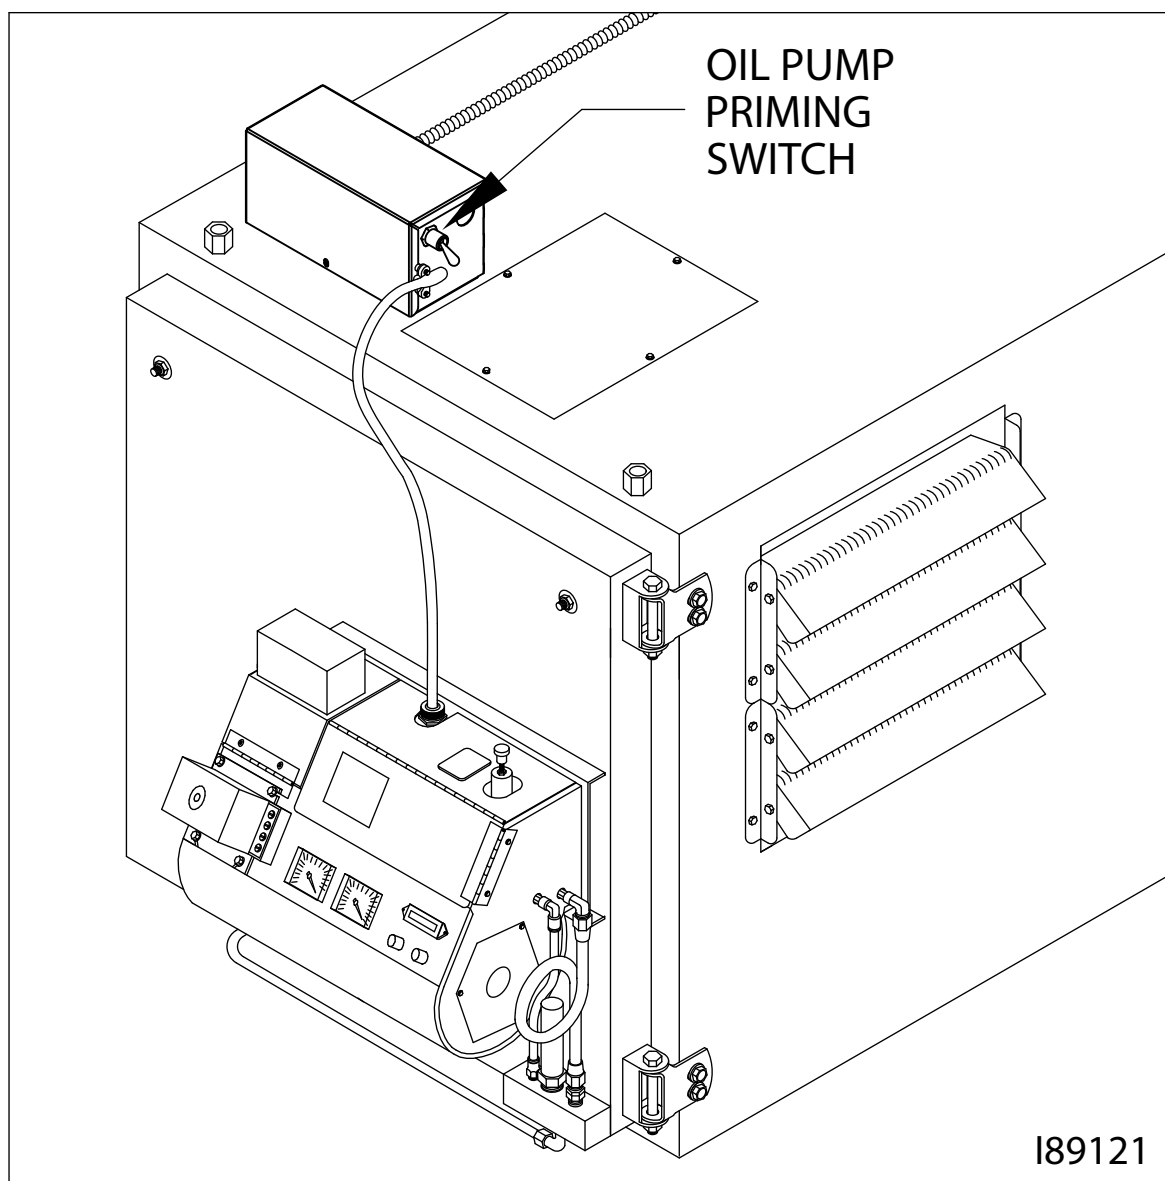

Figure 5B - Locating the Pump Priming Switch
- Refer to Figure 5B to locate the priming switch.
- Turn the priming switch to the prime (UP) position. The pump should immediately start running.